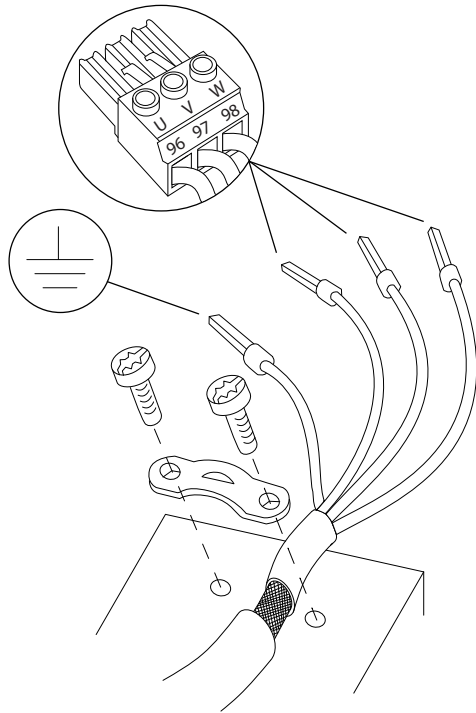

Figure 4.5 Motor Connection
- Connect ground wire to the nearest grounding terminal in accordance with grounding instructions provided in chapter 4.3 *Grounding*, see Figure 4.5.
- Connect the 3-phase motor wiring to terminals 96 (U), 97 (V), and 98 (W), see Figure 4.5.